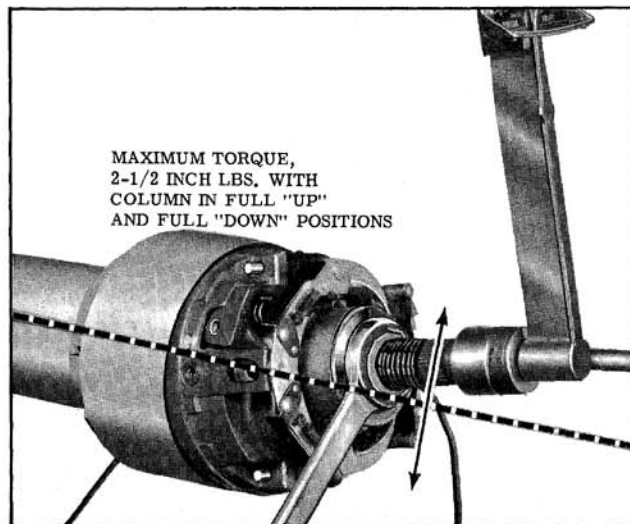

Fig. 8-117 Checking Steering Shaft Torque
2. Tighten the upper bearing nut while rotating the steering shaft with the column in the full up and down position until a torque reading of 2-1/2 in. lbs. is obtained. (Fig. 8-117)